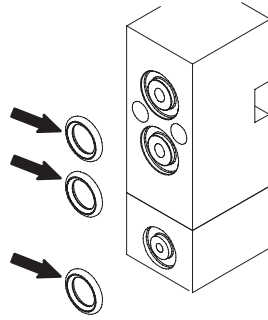

Figure 9-24 Installing the module O-rings
1. See Figure 9-24. Coat new module O-rings with O-ring lubricant and place them in the O-ring bores on the back of the module.